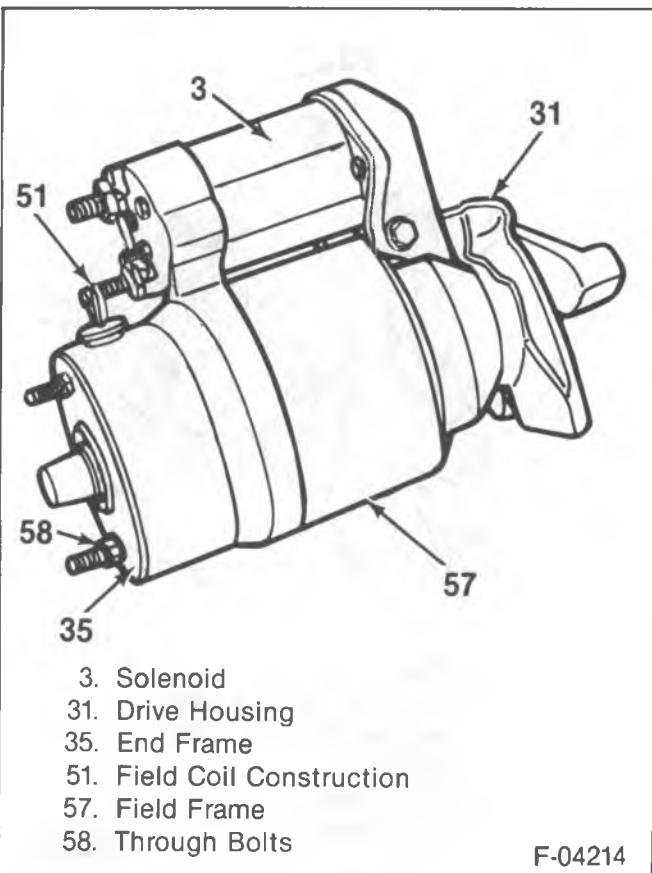
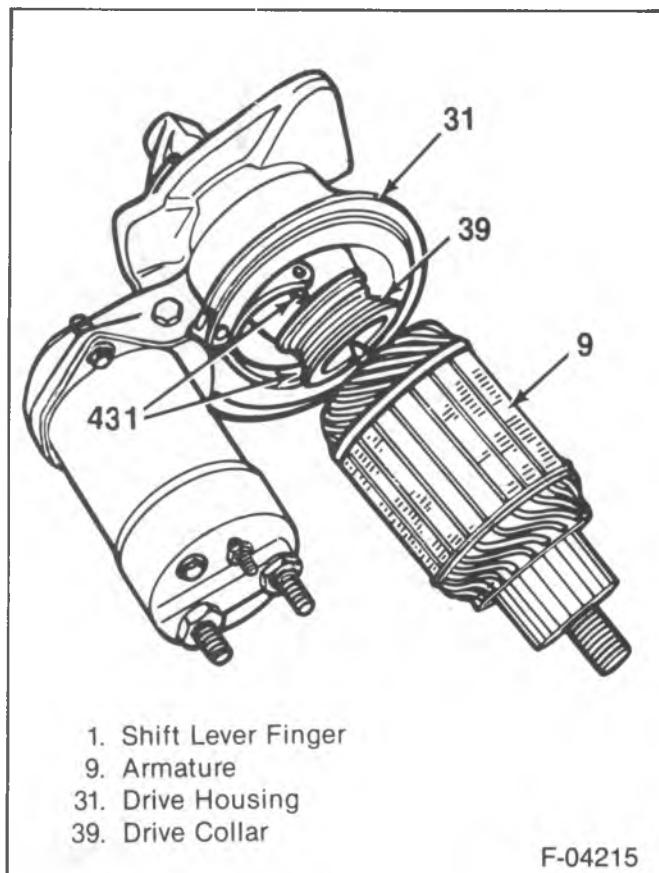

Figure 6—Light Duty Starting Motor
Figure 7—Disengaging the Drive Collar from the Shift Lever Fingers
1. Field coil strap (51) from the solenoid motor terminal (figure 6).
2. Through bolts (35).
3. End frame (41).
4. Washer (34) from the commutator end of the armature shaft (SD-300).
5. Field frame (41) from the drive housing (31) and the armature assembly (9).
6. Armature from the drive housing by tilting the armature to disengage the shift lever fingers (1) from the drive collar (32) (figure 7).